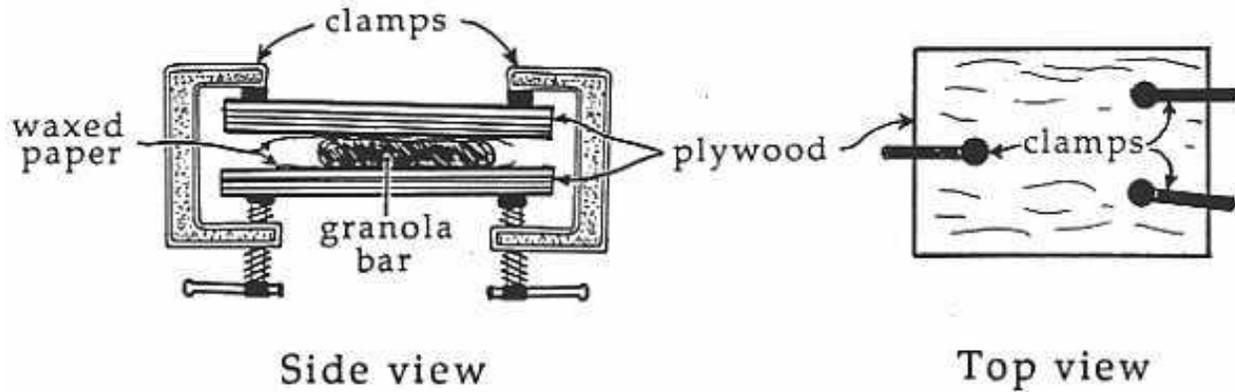

Figure 1. Simulated metamorphic process.
Students examine the bar "before metamorphism" by cutting off one end of the bar and describing the noted grain orientation. The bar is then placed between the sheets of waxed paper on one of the pieces of plywood. The second sheet of plywood is placed on top of the first, clamps are applied at three points, see Figure 1, and pressure is applied evenly by turning each clamp a turn at a time until they cannot be turned BY HAND any further. At this point the clamps are removed and the bar reexamined.
4. Tighten the C clamps until the plywood/granola “sandwich” just fits between the jaws of the clamps. Place 2 clamps along one of the long sides of the plywood, one near each end. Place the third clamp on the opposite side an equal distance between the first two. Tighten each clamp just enough to hold the bar in place (see Figure 1 below).